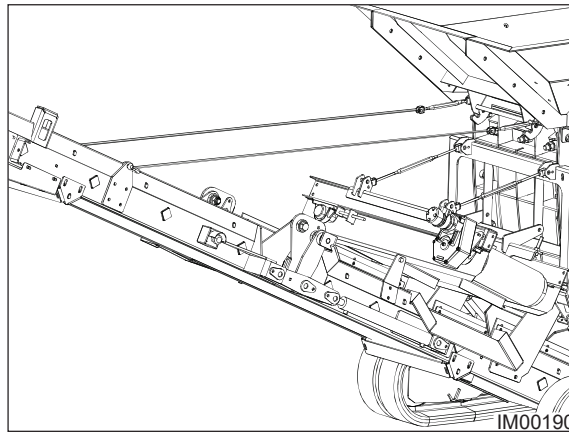

Fig: 7.8 - Steel Ropes & Turnbuckles
3. Install the steel ropes and turnbuckles from the conveyor to the crusher hopper (Fig: 7.8). Adjust the turnbuckles evenly on both sides of the conveyor until they are taut.